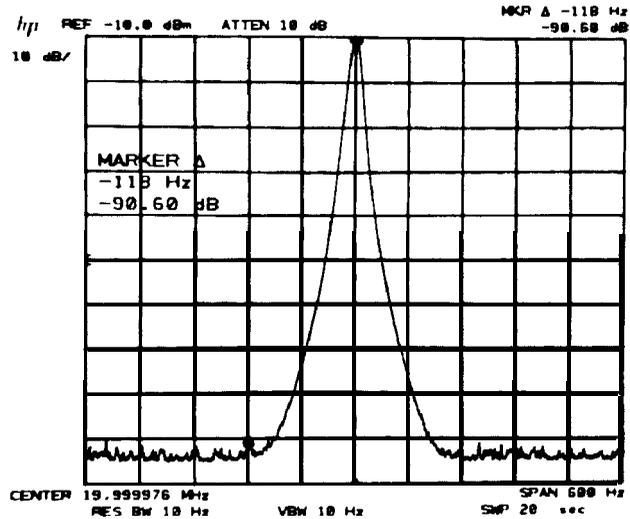

Figure 2-31. Line Related Sidebands Measurement
- Press MARKER **[PEAK SEARCH]**, **[Δ]** and position movable marker at the peak of each line related sideband (120 Hz, 180 Hz, and 240 Hz for 60 Hz line frequency; 100 Hz, 150 Hz, and 200 Hz for 50 Hz line frequency, etc.). The MARKER A amplitude for each sideband should be <-85 dB (see Figure 2-31).